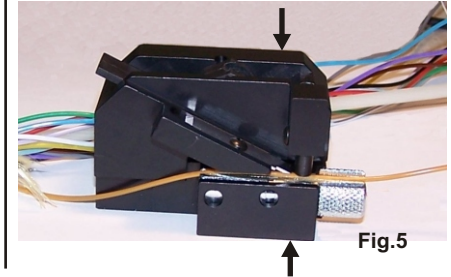

Fig.5
4. Close the top and bottom tool bodies manually together to engage the shaving blade and secure the fiber tube in the tool.(Fig.5) **Do not use the locking lever to close the tool at this time.** The top and bottom tool bodies must be completely closed together to ensure proper blade engagement. Particular fiber tubes may require substantial clamping pressure to properly seat the blade into the tube.